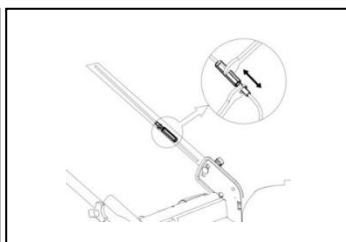

Fig. 17B
- 2) Use the wrench to release the M8 screw sleeves until the cable is slightly tensioned and tighten the screw nut.Fig.17B